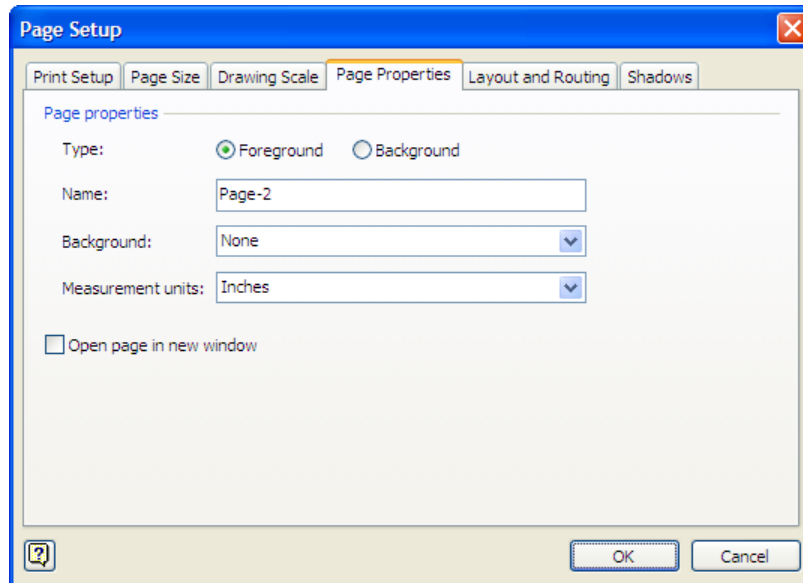

Figure 8 – Page Setup Dialog Box (Page Properties Tab)
2. Click **Insert Page...** The *Page Setup* dialog box opens (see Figure 8).